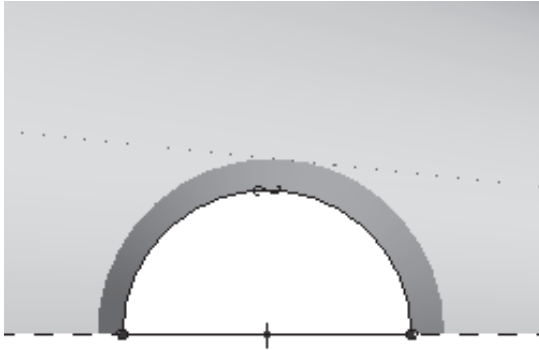

Figure 14-81 Sketch for the fill surface
- g. Remaining features are the fill features and they will be used to create surfaces on the blend features, refer to Figures 14-81 through 14-83.
7. Choose the **Create an entity from an edge** button and select the smaller semicircular edge of the blend surface. Complete the sketch, as shown in Figure 14-81.